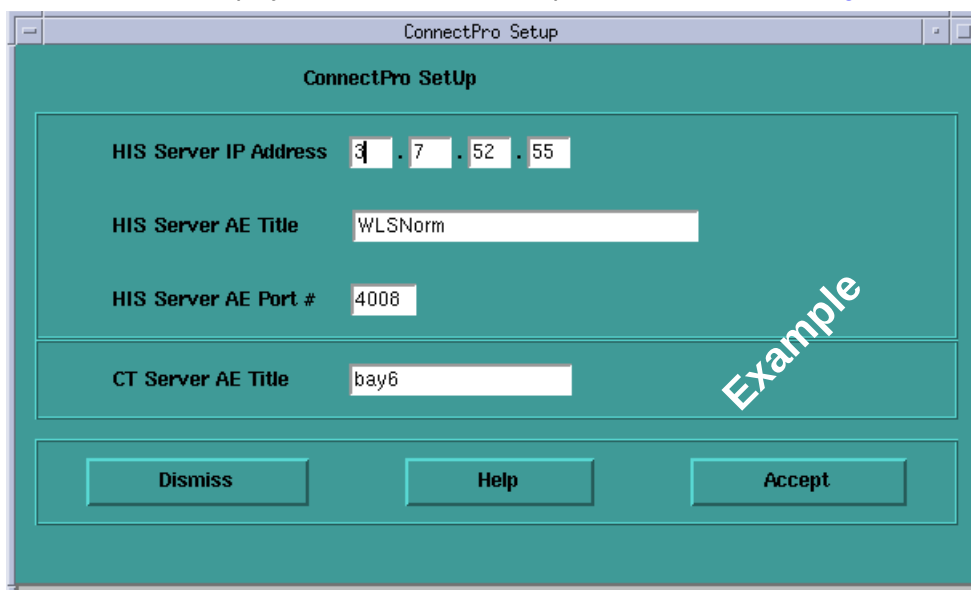

Figure 7-7 ConnectPro Setup Screen
- the console displays the ConnectPro Setup window as shown in Figure 7-7.
Then the ConnectPro Setup window as shown in Figure 7-7. Follow the Step 9\) to Step 19\) in Section 8.2 on page 262.